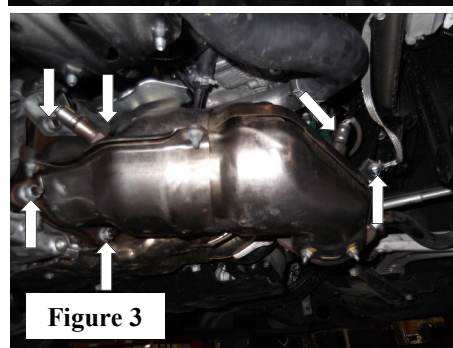

Figure 3
5. Disconnect factory O2 sensor, unbolt 4-nuts from downpipe and remove bolt as shown. (See Fig. 3)